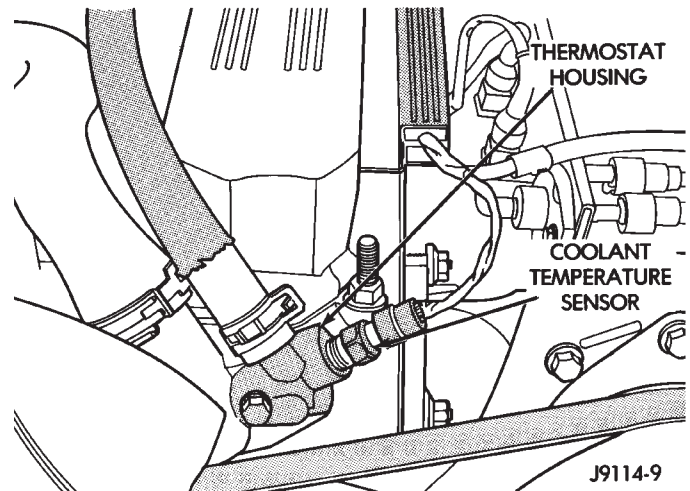

Fig. 5 Engine Coolant Temperature Sensor—Typical
The coolant temperature sensor is installed in the thermostat housing (Fig. 5).
- (2) Disconnect the coolant temperature sensor wire connector.
- (3) Remove the sensor from the thermostat housing (Fig. 5).